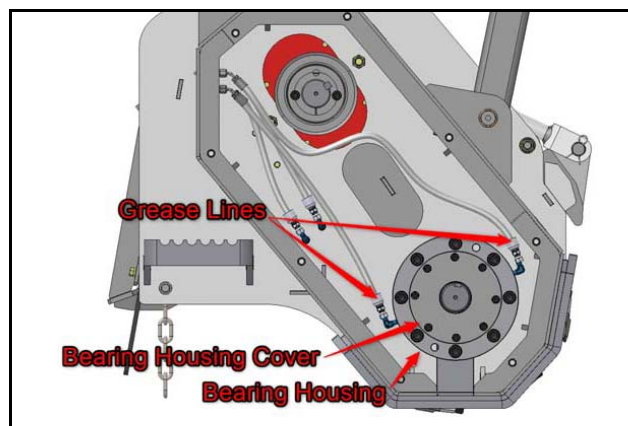

Figure 19
3. Remove grease lines from the bearing housing on both sides; leave the fittings in the bearing housing **[Figure 19]**.